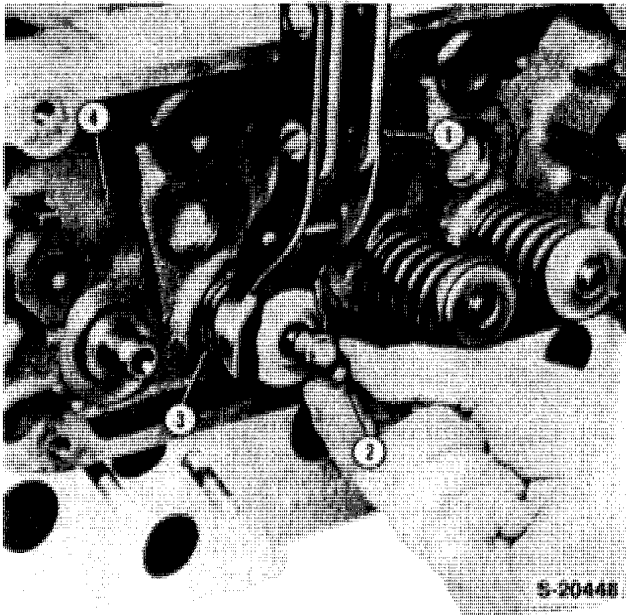

**Figure 5**
1. Remove the coolant outlet connection and the thermostat and gasket, Figure 5.